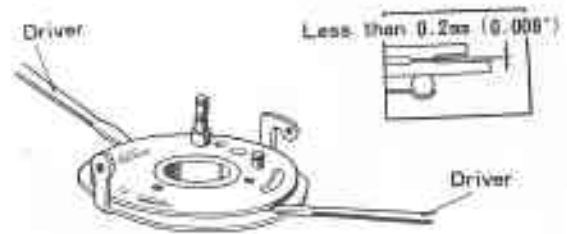

Fig. 10-16 Checking Clearance between Stationary & Breaker Plates G0349
4. Insert two screwdrivers between the breaker plate and the stationary plate as shown in the figure 10-16, and pry the screwdrivers.